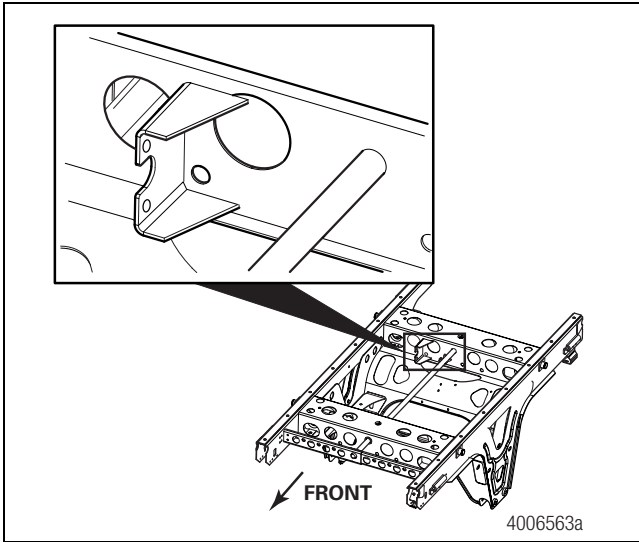
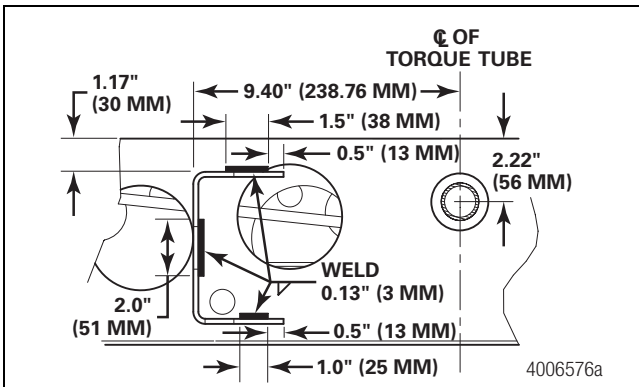

Figure 2
Figure 3
5. Locate the position on the slider frame for placement of the chamber bracket. Figure 2. Weld the chamber bracket to the frame. Figure 3.